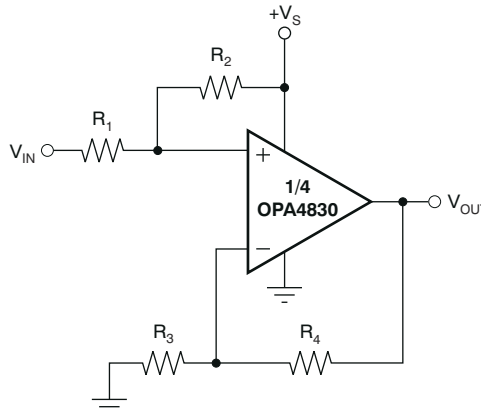

Figure 8-4. DC Level-Shifting
Figure 8-4 shows a DC-coupled noninverting amplifier that level-shifts the input up to accommodate the desired output voltage range. Given the desired signal gain (G), and the amount V_{OUT} needs to be shifted up (ΔV_{OUT}) when V_{IN} is at the center of the range, Equation 1 and Equation 2 give the resistor values that produce the desired performance. Assume that R_4 is between 200Ω and $1.5k\Omega$.